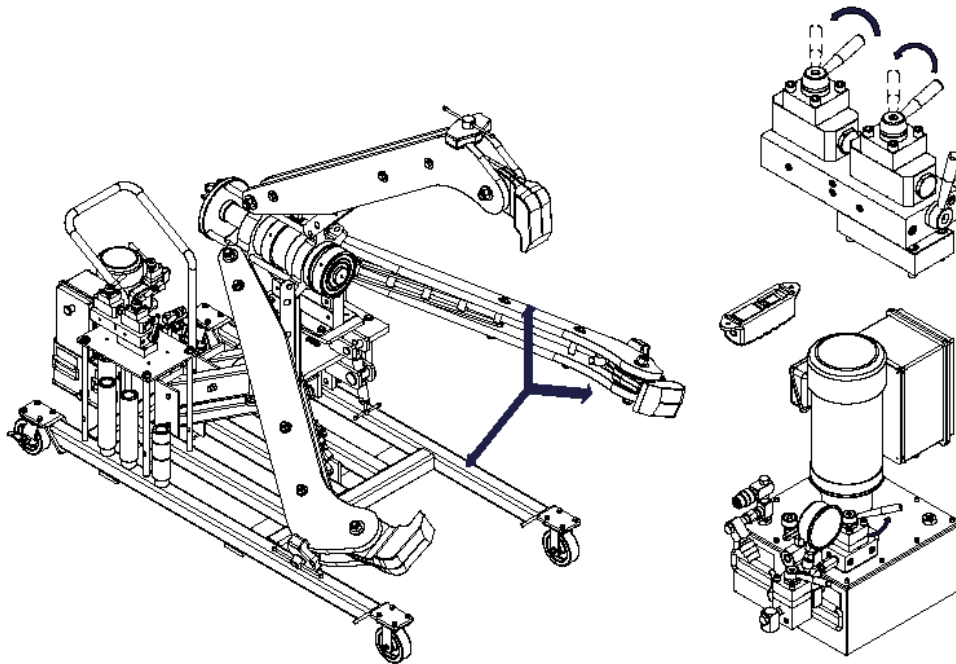

Figure 3 – Adjusting Puller Arms
- 5.2.3 Switch the control panel valve handles as shown in Figure 3 and press the button on the remote switch to open the jaws enough to fit over the work.